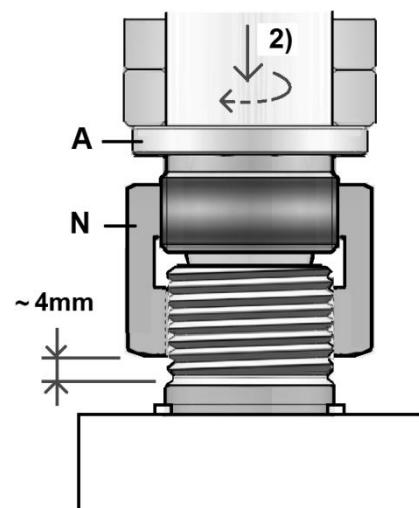

Fig 11
- 2) Place the arbour (A, Fig 11) into the spindle and thread arbour onto the nut (N). Slightly tighten the nut.